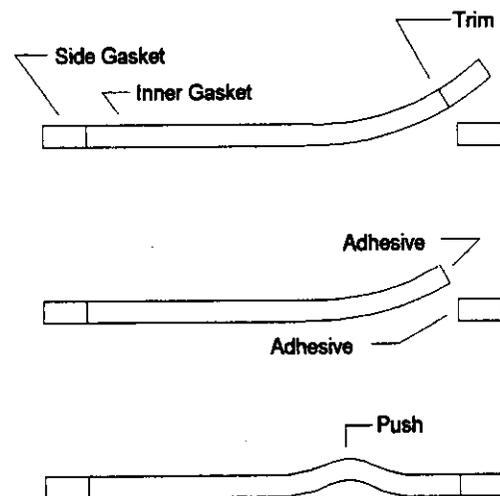

Figure 3- Installing Inner Gasket
(1) Position inner gasket strip with one end abutting side gasket; the other end overlapping the opposite side gasket (Figure 3). Install abutting end by applying contact adhesive on adjoining edges as shown in Figure 3. Press in place.
(2) Trim overlapping end of inner gasket as shown in Figure 3, and apply adhesive to adjoining edges. Abut joining surfaces and press in place. The gasket material is extremely stretchy and may ripple somewhat, but small ripples can easily be pressed flat.